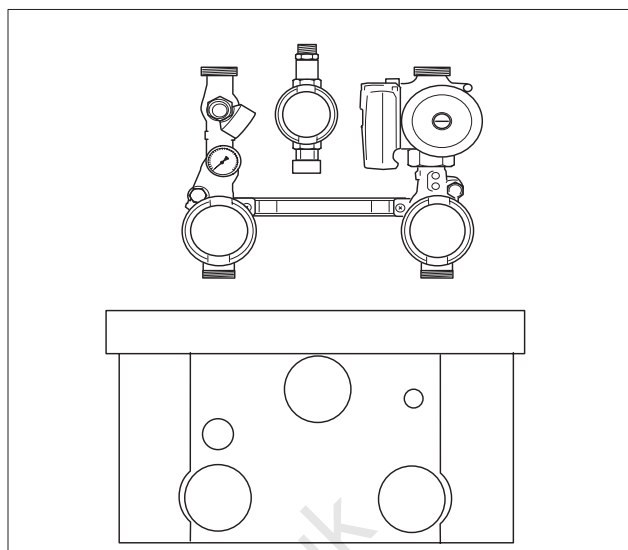

fig. 11 Pump group (accessory)
- using a pump group (fig. 11) (accessory)